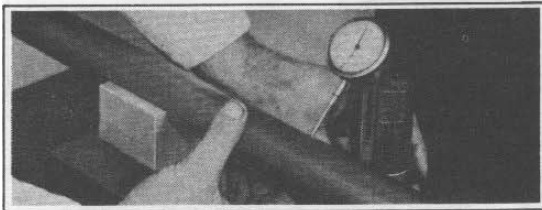
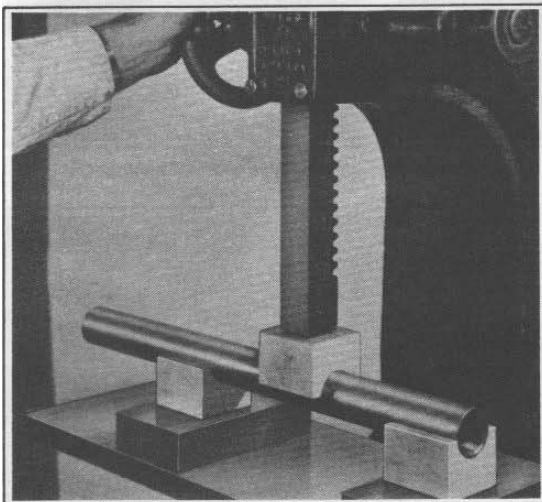

Figure 2-30. Indicating High Point
Figure 2-31. Pressing High Point
2. Find the highest point out-of-round with a dial indicator (figure 2-30) and mark with chalk. Press high point as shown in figure 2-31. Repeat indicating and pressing operations until tube is within 0.003 in. to 0.004 in. of being straight.